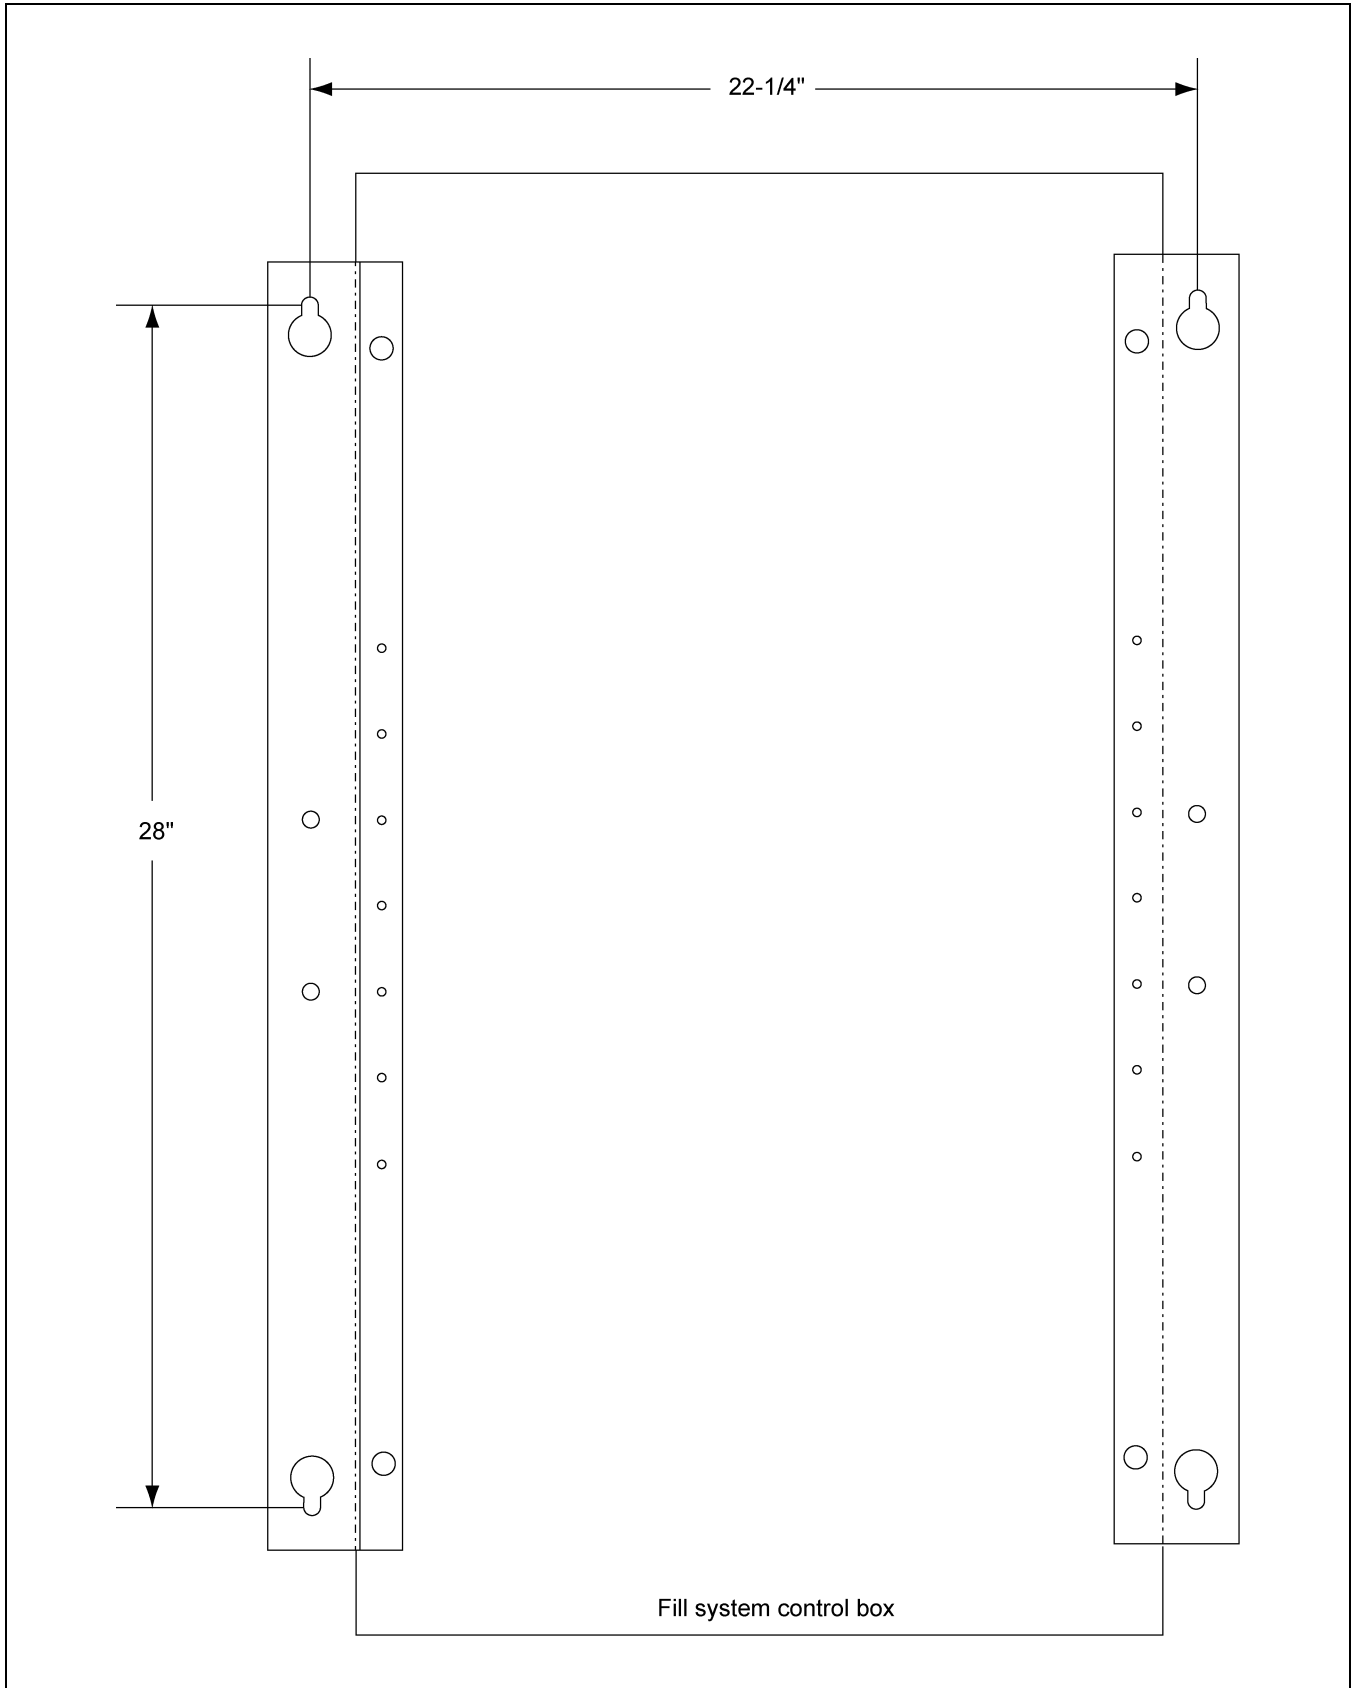

Figure 3E *Illustration of the bolt pattern for the fill system control box.*
3. Use the pattern in Figure 3E on Page 20 to drill holes for the fill system control box, if the box is to be mounted to the side of the bin.